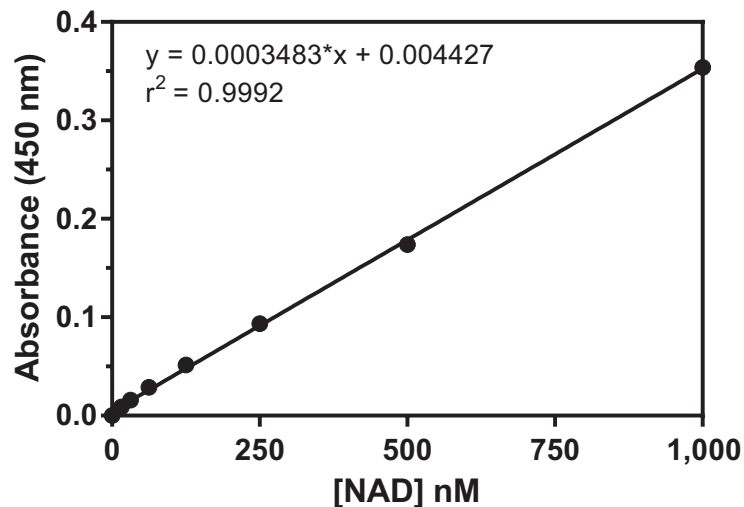

Figure 3. NAD Standard Curve
3. Plot the corrected absorbance values (from step 2 above) of each standard as a function of the final concentration of NAD. See Figure 3, on page 14, for a typical standard curve.